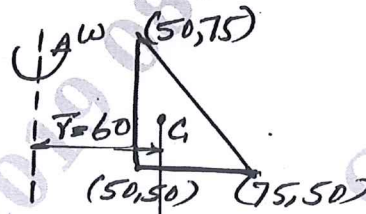

Fig.Q9(b)
b. For the element of an axisymmetric body rotating with a constant angular velocity  $\omega = 1000$  rev/min as shown in Fig.Q9(b). Determine the body force vector. Include the weight of the material,  $\rho = 7850$  kg/m3. (04 Marks)